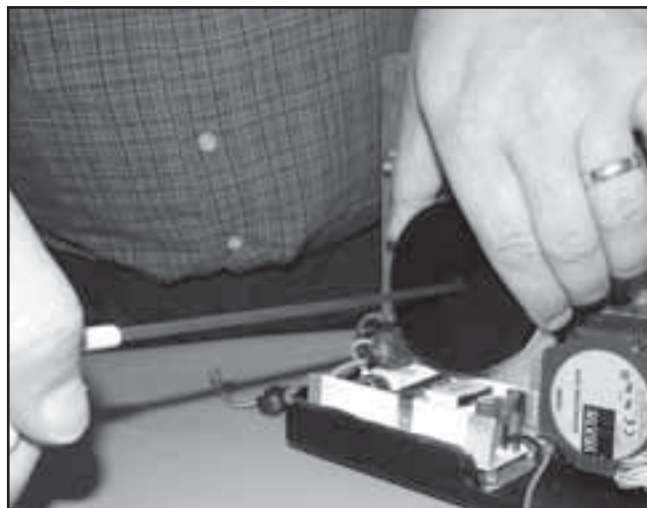

FIGURE 6.41
3. While holding the Cord Tension Spring Housing with one hand. Loosen the retaining screw with the other hand using the 5/32 in Allen Wrench. See Figure 6.41.